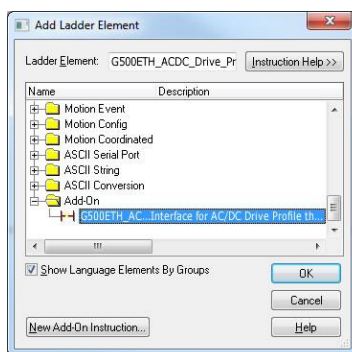

Figure 42: Add AC/DC Drive Profile Add-On Instruction
- 8) Select the AC/DC drive profile add-on instruction in the Add-On folder. Refer to Figure 42.